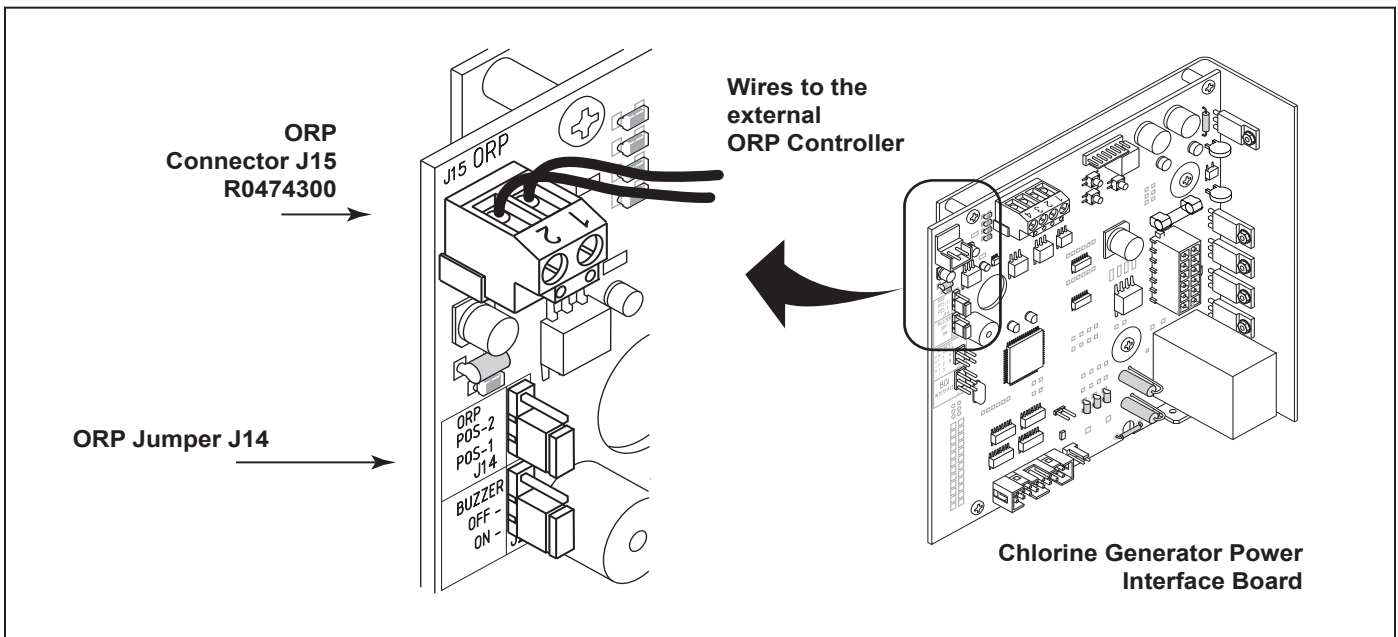

Figure 16. Movable ORP Jumper J14
An external device such as an ORP (Oxidation Reduction Potential) controller supplying 24 Volts AC can be used to control the output of the chlorinator. The chlorinator control board can be set up in the field to operate in two (2) different modes. The mode of operation is determined by the position of a movable jumper J14. See Figure 16 for location.
**POS-1** Wait at least one (1) minute after applying power. See note 1.